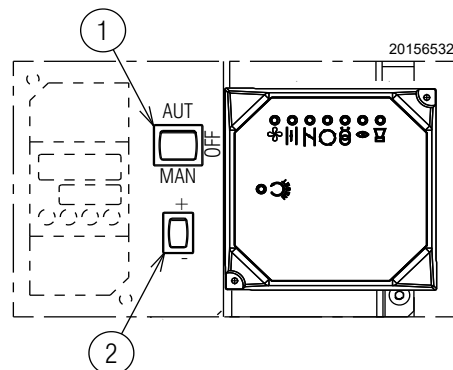

Fig. 30
Put the selector 1)(Fig. 30) in position "MAN".
- put the switch 1) of Fig. 30 to "OFF" and wait for the control box carries out the switching off phase;
The air is adjusted by varying the angle of cam III) (Fig. 29) and by using the selector 2)(Fig. 30). To adjust the cam of the servomotor, see Fig. 33 A).
In the above instructions we left the burner running at the MIN output. Now press the "increase output" button 2)(Fig. 30 on page 28), and keep it pressed until the servomotor has opened the air damper and the gas butterfly valve.
The air is adjusted by varying the angle of cam I) (Fig. 29 on page 27) and by using the selector 2)(Fig. 30 on page 28). To adjust the cam of the servomotor, see Fig. 33 A).
Press button 2)(Fig. 30 on page 28) "Diminishing output" and keep it pressed until the servomotor regains (Fig. 33 B) the adjustment made in the factory: See Tab. L on page 27 and as a consequence adjusting the air damper 5) and the gas butterfly valve 4)(Fig. 32 on page 29).
The regulation of the air is carried out using the angle of the cam III) of the servomotor (Fig. 29 on page 27) and by using the selector 2)(Fig. 30 on page 28). To adjust the cam of the servomotor, see Fig. 33 A).
After adjusting the maximum and minimum output of the burner, carry out air adjustment on higher intermediate positions of the servomotor. The passage from one position to the next one is obtained by pressing the button 2) on the symbol (+) or (-) (Fig. 30 on page 28). For a brief period press the button 2)(Fig. 30 on page 28) "Output increase" so that the servomotor rotates by about 20°, see servomotor graduated index Fig. 33 B) and the air damper graduated index 5) (Fig. 32 on page 29).
Switch off the burner using the switch 1)(Fig. 30), OFF position, release the mechanical cam I)(Fig. 32) to separate the gears of the servomotor, pressing and shifting downwards the button 3)(Fig. 33 D) and check a few times, by rotating the mechanical cam I)(Fig. 32) manually backwards and forwards, that the movement is smooth and without any hindrance.